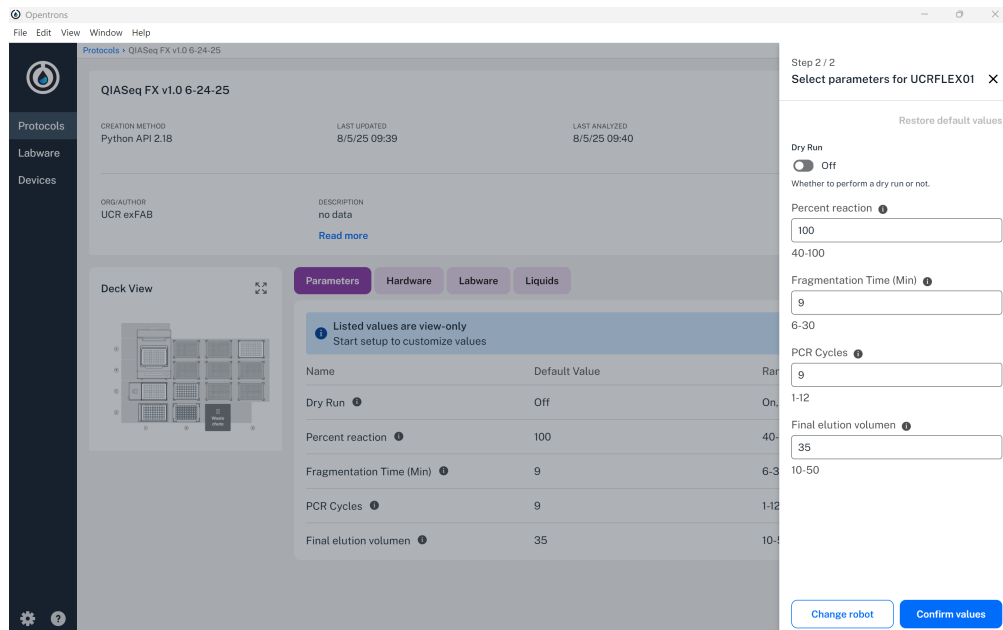

Figure 12. User parameter selection; Dry run switch, percent reaction, fragmentation time, PCR cycles, final elution volume.
- A user prompt will appear in which the user can select whether the protocol provided will be a dry (test) or regular run. Other input parameters include, percent reagent to be used, fragmentation time in minutes, number of PCR cycles, and final elution volumes. These parameters are shown in Figure 12.